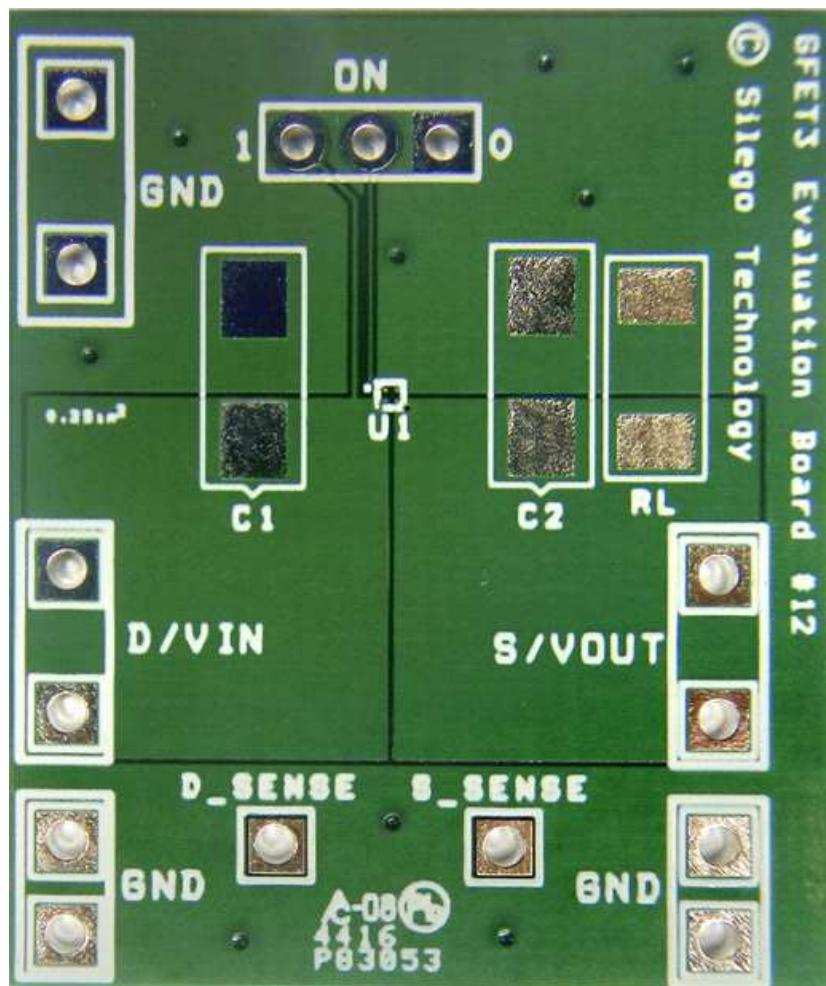

Figure 8. SLG59M1748C Evaluation Board
1. Since the VIN and VOUT pins dissipate most of the heat generated during high-load current operation, it is highly recommended to make power traces as short, direct, and wide as possible. A good practice is to make power traces with an absolute minimum widths of 15 mils (0.381 mm) per Ampere. A representative layout, shown in Figure 8, illustrates proper techniques for heat to transfer as efficiently as possible out of the device;
A GreenFET Evaluation Board for SLG59M1748C is designed according to the statements above and is illustrated on Figure 8. Please note that evaluation board has D_Sense and S_Sense pads. They cannot carry high currents and dedicated only for RDS_{ON} evaluation.